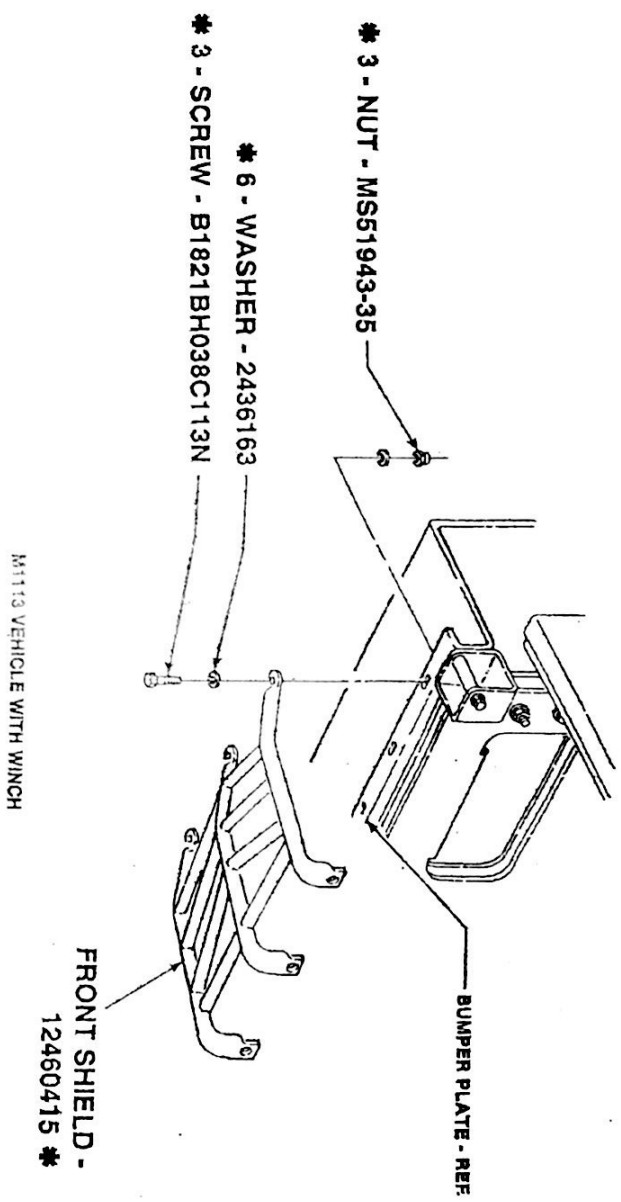

FIGURE 21
- G. POSITION 12460415 FRONT SHIELD TO BUMPER PLATE AND INSTALL THREE B1821BH038C113N SCREWS, SIX 2436163 WASHERS, AND THREE MS51943-35 NUTS AS SHOWN IN FIGURE 21. DO NOT TIGHTEN SCREWS.
C2 A	ADDED FIG 21